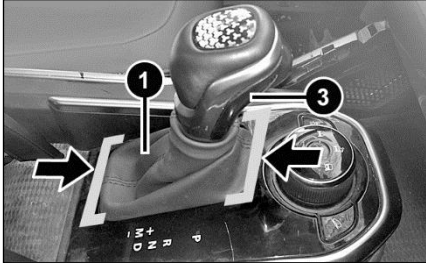

Fig 1
2. Carefully squeeze & remove the bellow (1) by pulling it in upward direction as shown in area by arrows (shown in fig.1)